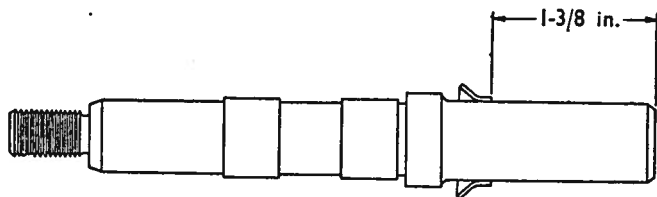

Fig.10. Location of water thrower on pump shaft
2. Check the water thrower for slackness or damage. If a new thrower is required, it should be installed as shown in Fig.10.